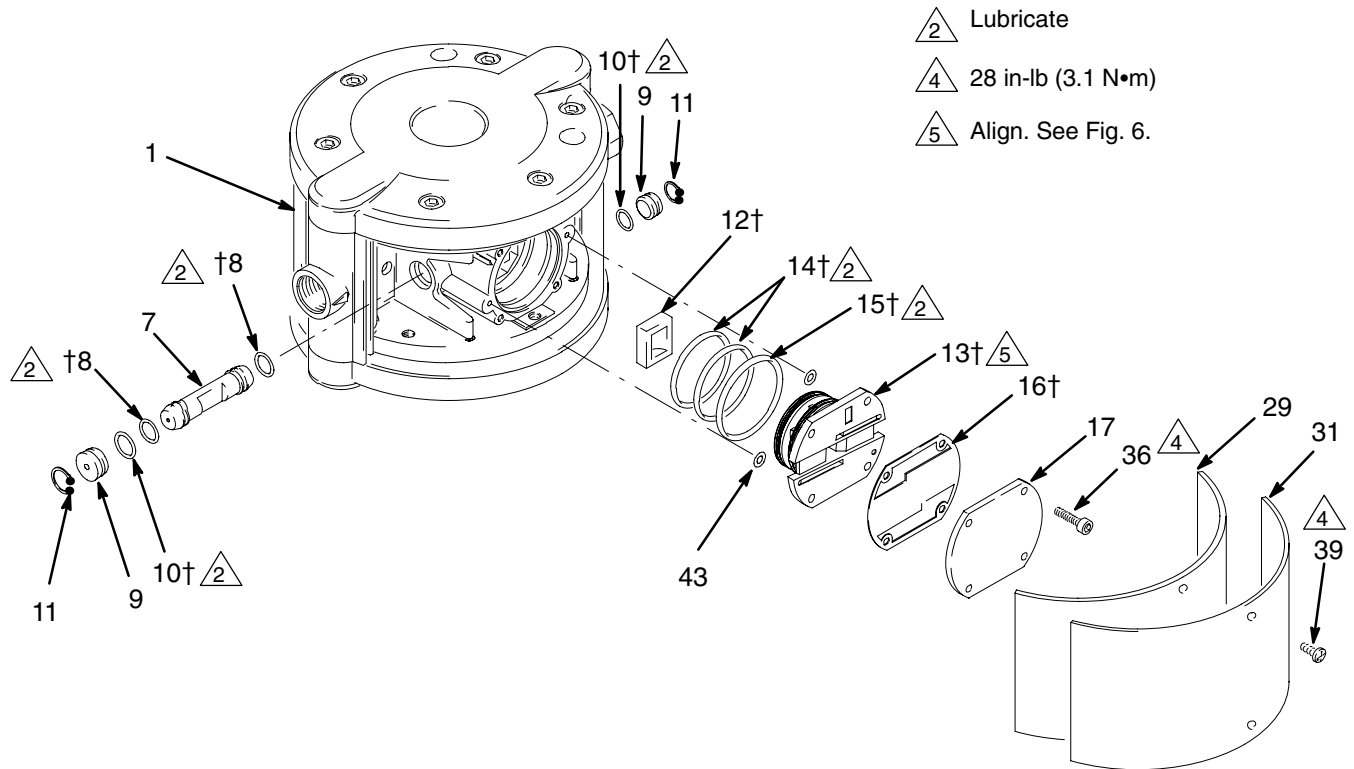

Fig. 7
1. Remove the side cover (31) and felt dampener (29).
2. Remove the four screws (36), air valve cover (17), and gasket (16). See Fig. 7.
3. See Fig. 6. Note the orientation of the air valve plate (13) relative to the fluid outlet arrow, with "POM" marking up. Pull the plate out of the center housing (1). Remove the three o-rings (14, 15) and the two o-rings (43) from the plate. See Fig. 7.
4. Remove the air valve cup (12) from the center housing (1).
5. Remove the retaining rings (11) and plug (9) from both sides, and slide the carriage (7) from the center housing (1). Remove the o-rings (8, 10) from the carriage and the plug.
- Lubricate the o-rings (8†) and install them on the carriage (7). Slide the carriage into the center housing (1) so the notch faces out, as shown in Fig. 7.
- Lubricate each o-ring (10†) and install them on the plugs (9). Insert a plug in each side to secure the carriage (7). Install the retaining rings (11) to hold these parts in place.
- Install the air valve cup (12†) in the notch of the carriage (7) so the open side faces out.
- Install two o-rings (43) in the counterbore of the air motor.